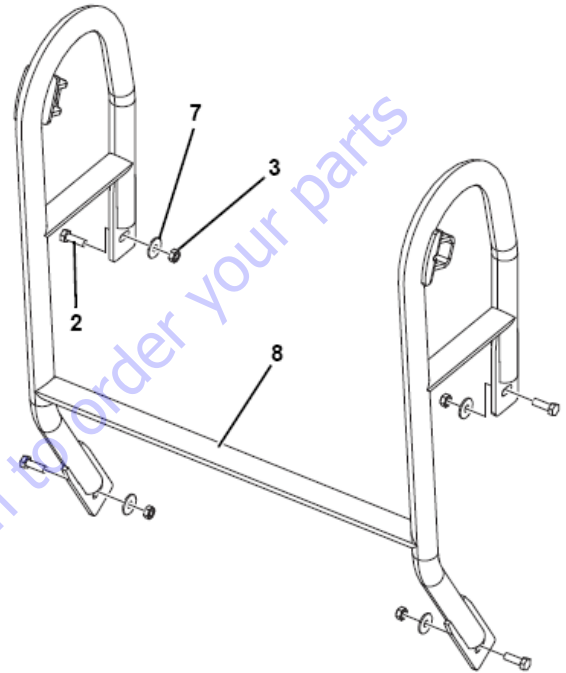

Figure 4-11.
1. Install the SkyGuard Support Bracket (8) onto the welded mounts on platform rails. Secure the support bracket using four Bolts (2), relevant Washers (7) and Nuts (3). See Figure 4-11.